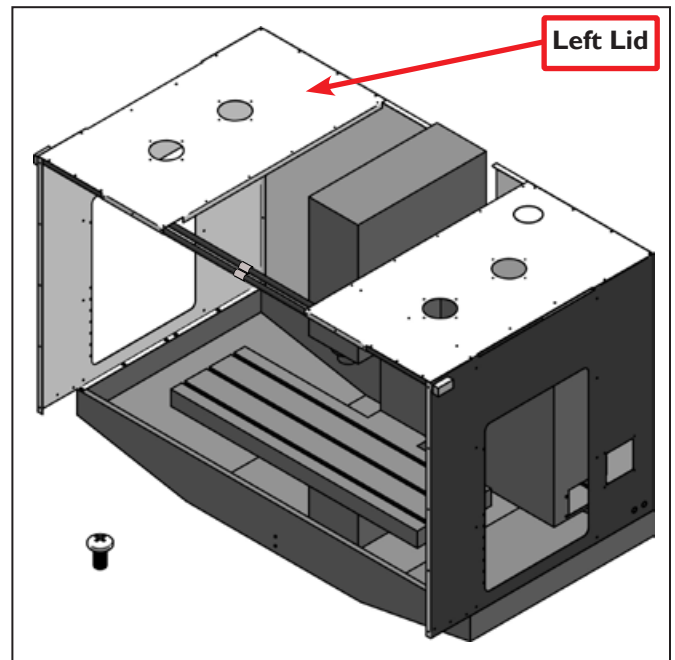

Figure 9
24. Place the upper Left Lid (E.28) on top of the left rear panel, left side panel, and door support rods (see **Figure 9**). Loosely fasten with (F) screws along the rear and side panels.